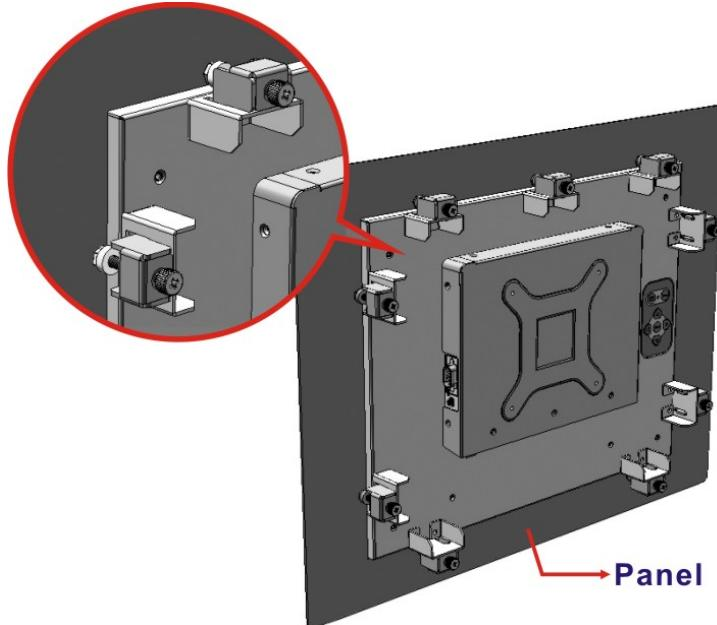

Figure 3-27: Panel Mounting Clamp Installation
Step 5: Insert the panel mounting clamps into the pre-formed holes of the clamp holders (**Figure 3-27**).
Step 6: Tighten the screws that pass through the panel mounting clamps until the plastic caps at the front of all the screws are firmly secured to the panel (**Figure 3-27**).